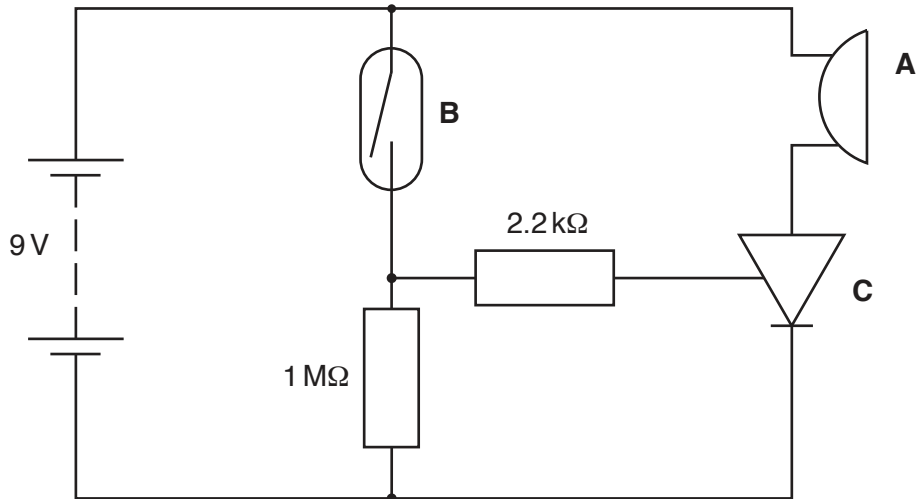

Fig. 3
- (b) Fig. 3 shows an idea for a circuit for a security alarm to indicate that a door had been opened.